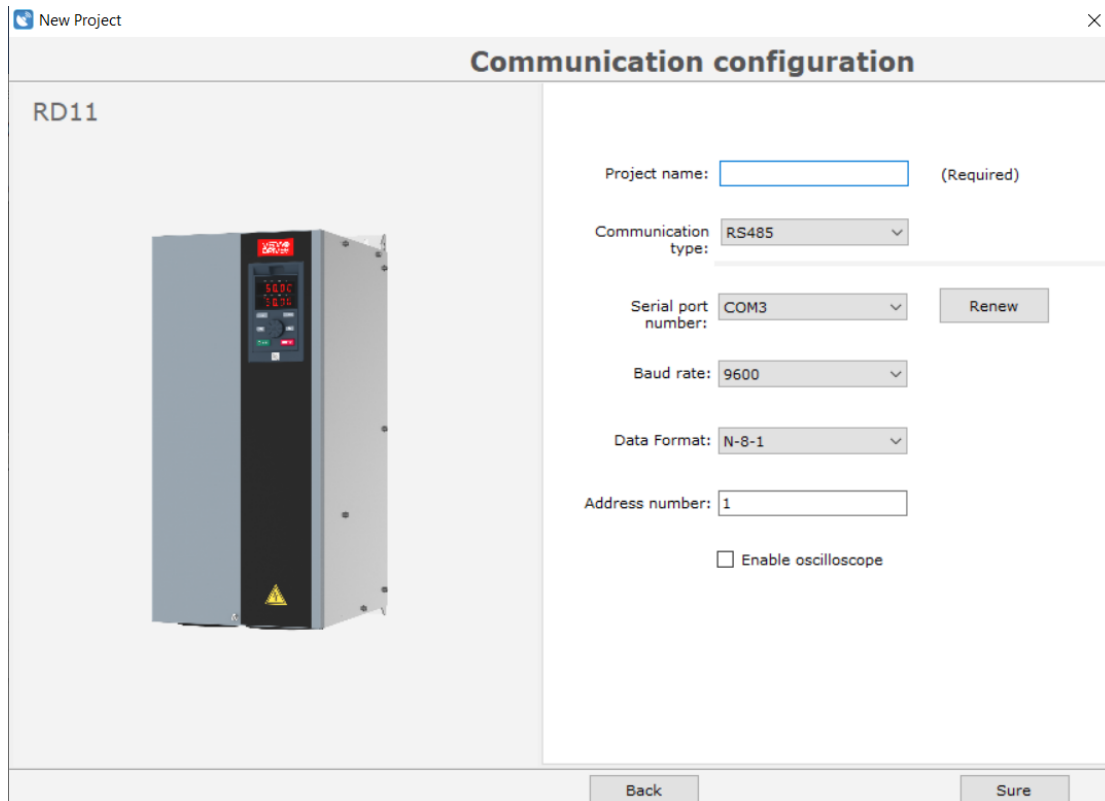

Figure 3
2. Select [Inverter] as products series -> [RD11] -> [Next]. Enter the communication configuration. Item name is required and the communication type: RS485. Other communication parameters should be set according to the actual configuration. As shown in the figure 3 below: